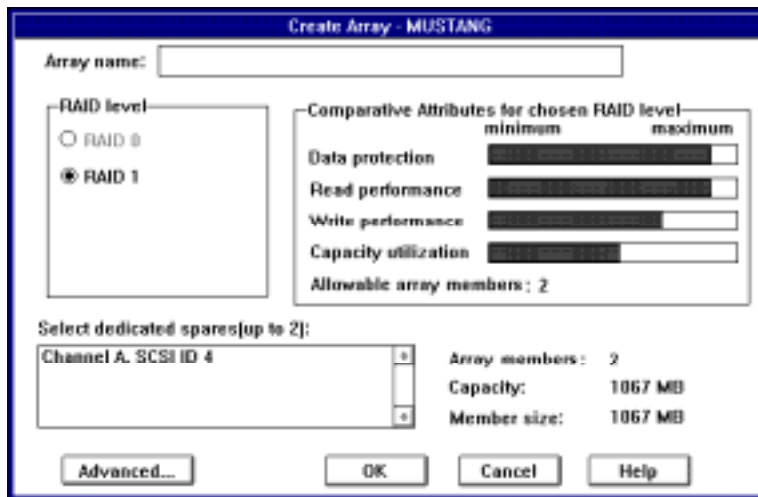

Figure 3-3. Create Array Dialog Box
- 4 Click the **Create Array...** button. The Create Array dialog box appears, as shown in Figure 3-3.